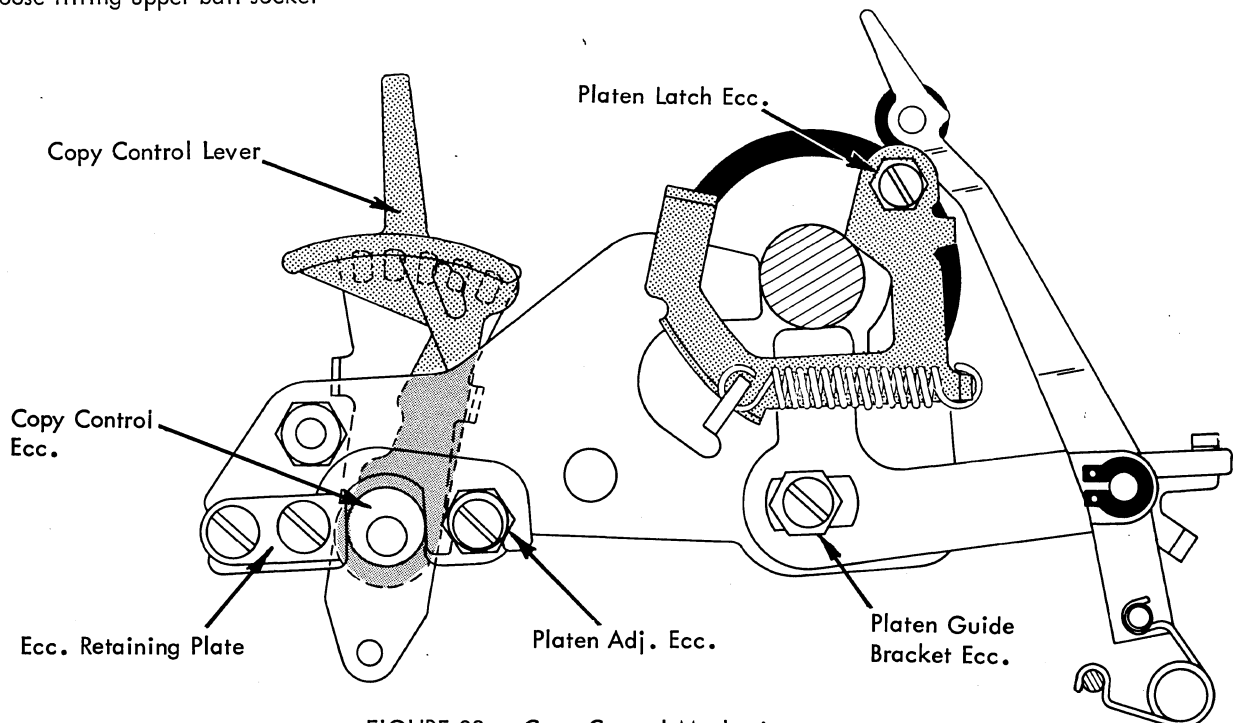
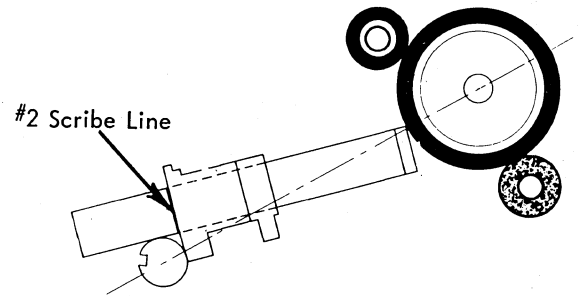

FIGURE 88. Copy Control Mechanism
FIGURE 90. Front to Rear Platen Adjustment
- 1. Copy Control Lever - With the copy control lever detented in the forward position, the high points of the eccentrics should be vertical (Fig. 88). Adjust the copy control lever on the shaft to satisfy this condition.
2. Eccentric Retaining Plates - For maximum efficiency of the copy control eccentrics, adjust the plate on each side of the machine so that no front to rear play exists between the eccentrics and the retaining plates (Fig. 88). Be sure that no binds exist.
3. Platen Latches - Adjust the platen latch eccentrics with the high part down so that the platen is held firmly in position vertically and horizontally (Fig. 88). The latches should latch and unlatch freely with the feed rolls released.
Adjust the platen guide bracket eccentrics to obtain this condition (Fig. 88). The high part of the eccentrics should be kept to the rear. It is necessary to remove the deflector and front feed rolls when checking the adjustment with the Hooverometer.
- b. Platen Front to Rear - With the head of the Hooverometer set at the #2 scribe line, the tool should just span the distance between the platen and the print shaft as illustrated in Fig. 90. Adjust the platen adjusting eccentrics to obtain this condition (Fig. 88).